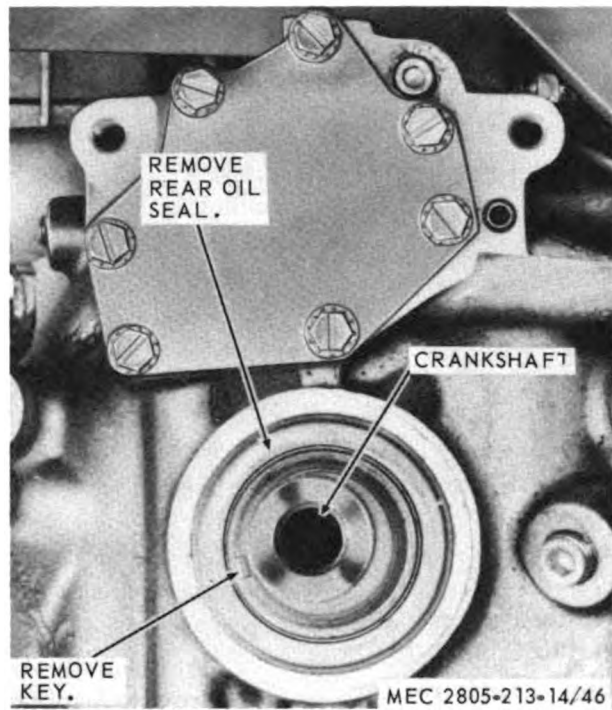

Figure 5-8. Rear oil seal, removal and installation.
- (1) Remove the flywheel housing (para 5-10).
- (2) Refer to figure 5-8 and remove the rear oil seal.
(1) Refer to figure 5-8 and install the rear oil seal.
(2) Install the flywheel housing (para 5-10).